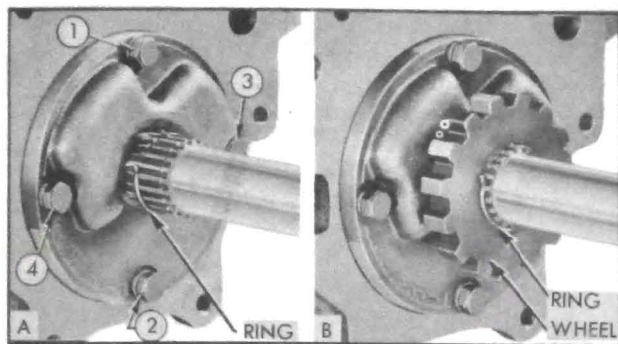

Figure 5-88—Pump Bolt Tightening Sequence—Installation of Ratchet Wheel
4. Install pump bolts with lockwashers, tighten evenly to 5 ft. lbs. torque in sequence shown in figure 5-88 (A), then tighten in same sequence to 25-30 ft. lbs. torque.
1. Install a retaining ring in the forward groove in output shaft, install ratchet wheel, then install retaining ring in rearward groove in output shaft. See figure 5-88.